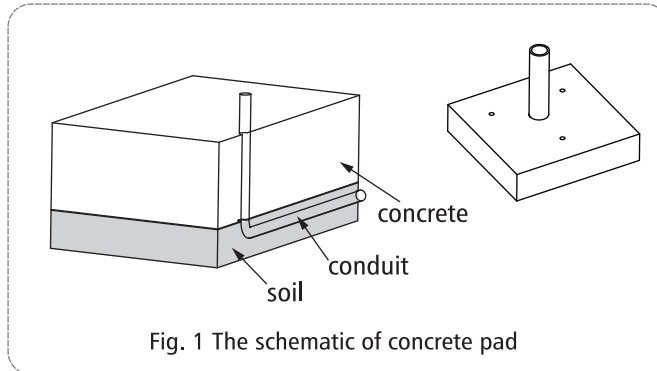
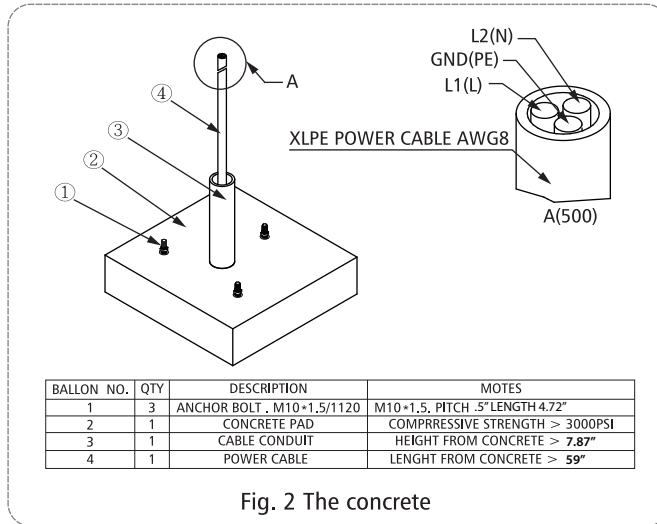
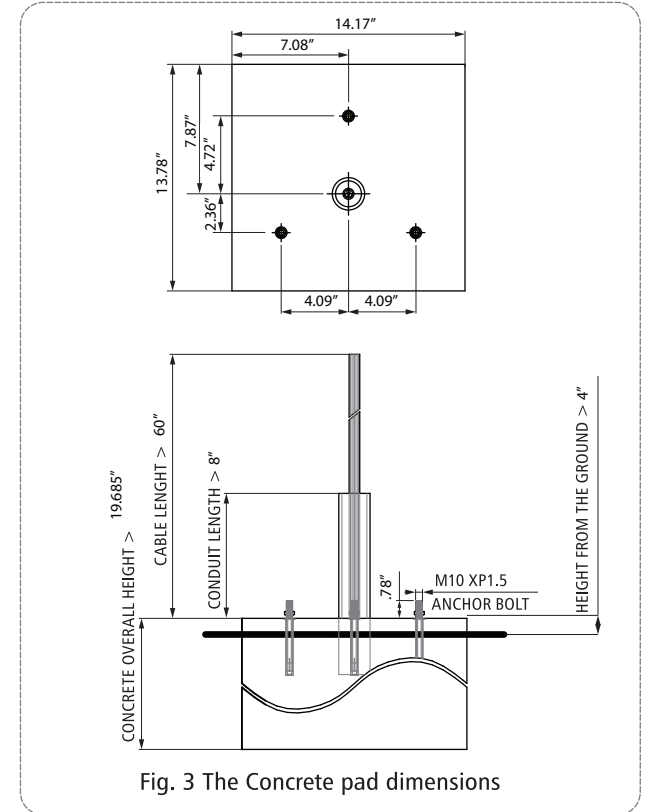

Fig. 1 The schematic of concrete pad
Fig. 2 The concrete
Fig. 3 The Concrete pad dimensions
- The first, pedestal need build the concrete pad, the compressive strength must be over 3000psi, reference picture is shown as Fig. 1 & Fig. 2, and the concrete pad dimensions (W 14" x L 14" x H x 20") is shown as Fig. 3